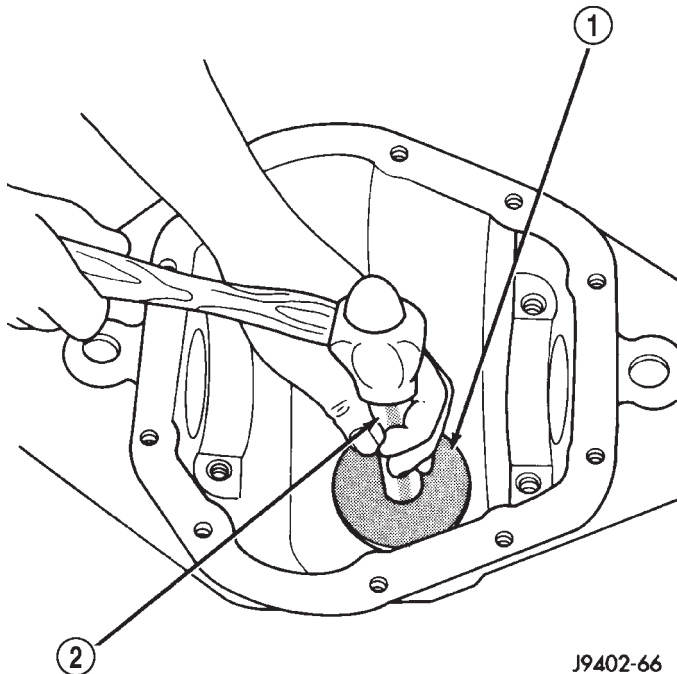

Fig. 30 Pinion Rear Bearing Cup Installation J9402-66
- (1) Apply Mopar® Door Ease, or equivalent, stick lubricant to outside surface of bearing cup.
- (2) Install the pinion rear bearing cup (Fig. 30) with Installer C-4308 and Driver Handle C-4171.